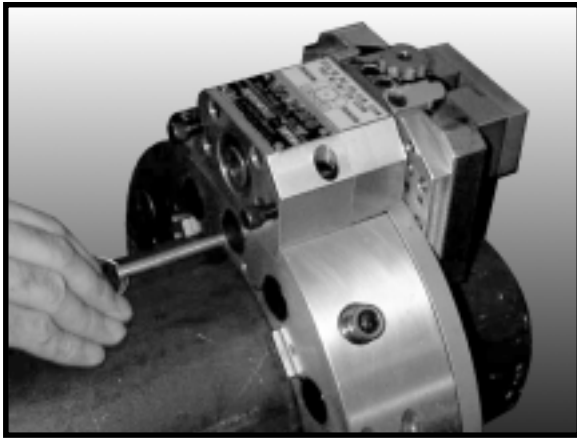

FIGURE 8
17. With machine securely seated on the pipe, remove the frame locking detent pins (Figure 8).